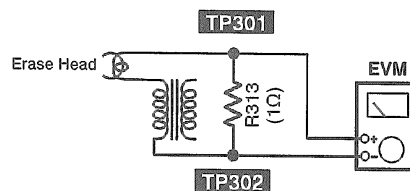

Fig. 7
3. Check if the output at this time between the erase current confirmation point TP301 and TP302 (the output on both edged of R313) is within the standard value. (Refer to Fig. 7.)